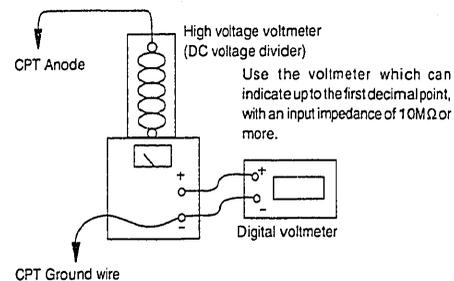

Fig. 1
- Connect the high voltage voltmeter between the CPT anode terminal (anode cap) and ground as shown in Figure 1.